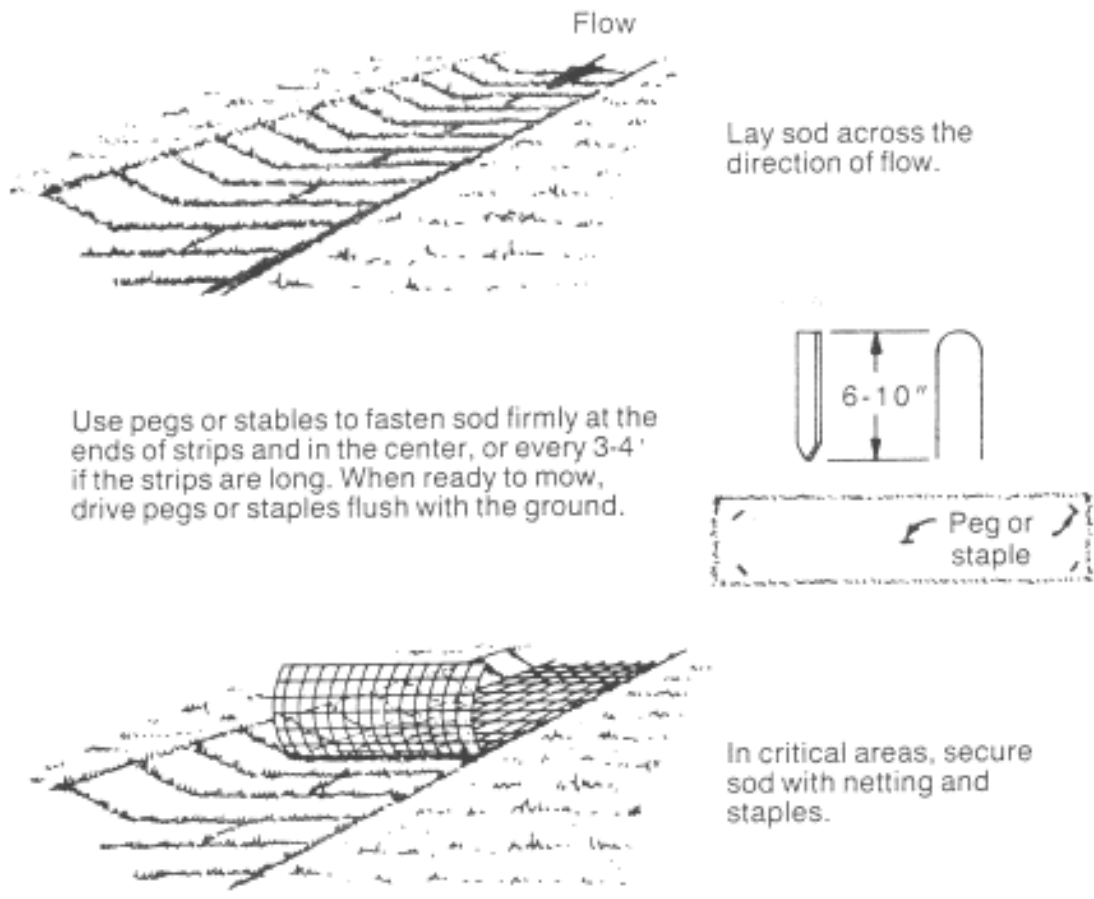

Figure 5-10 Installation of sod in waterways.
- b. Lay sod strips perpendicular to the direction of flow, with the lateral joints staggered in a brick-like pattern. Edges should butt tightly together (Figure 5-10).